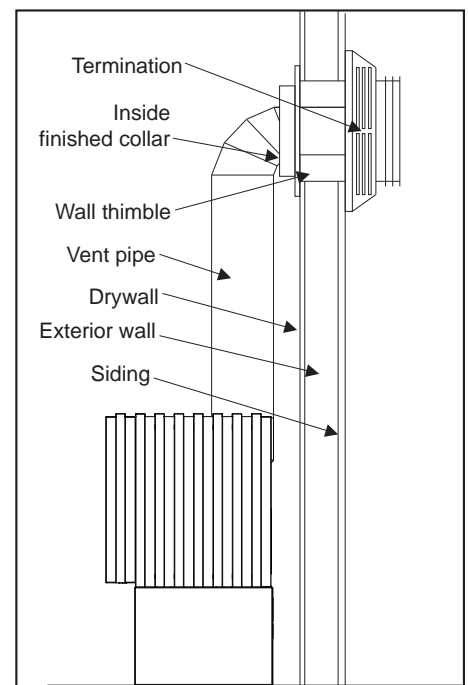

Figure 54: Installation for Top Vented; Horizontal Termination.
4. After a minimum of 10 minutes operation, test the chimney draft with a smoke match at the top row of the pattern to confirm that there is adequate draft or 'pull' at the openings around the body of the Drafhhood Adaptor, as shown in Figure 54.